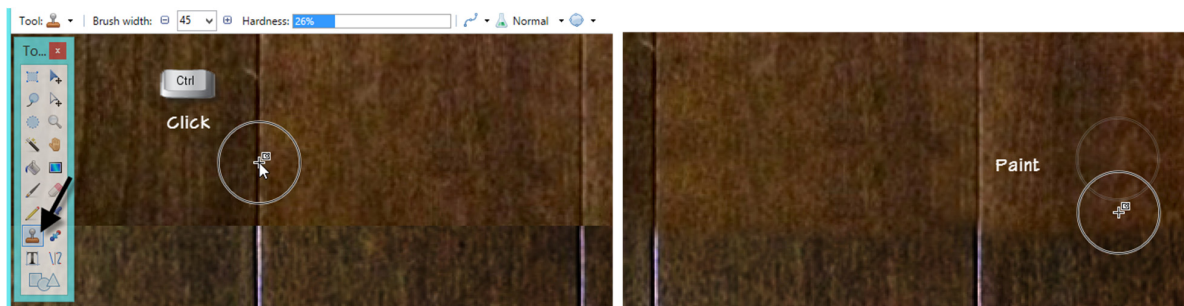

Figure 23—Use the clone tool to paint out the seam
- ⇒ Move over the seam area and begin painting (see Figure 23).